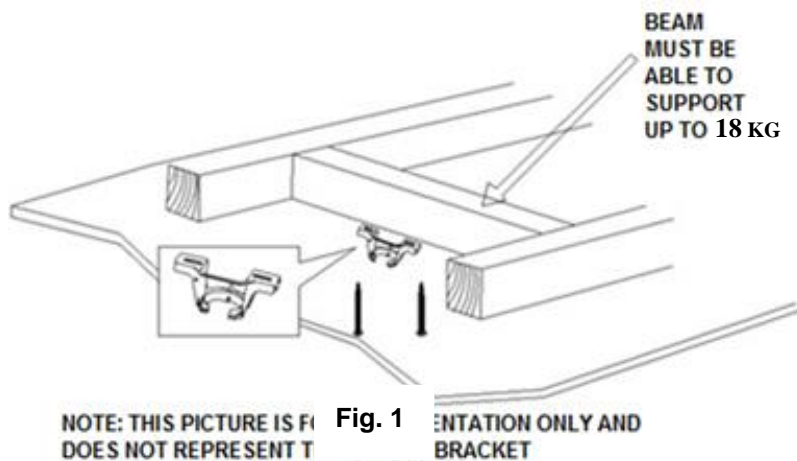

Fig. 2
- Install the hanging bracket to the ceiling joist or structure that is capable of carrying a load of at least 18kg, with four long screws provided. Ensure at least 30mm of the screw is threaded into the support. (Fig. 2)